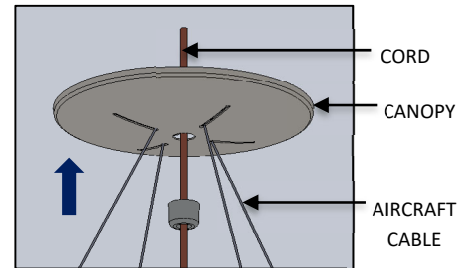

FIG. 18 – CANOPY PLATE INSTALLATION
8. Pass the CANOPY through the AIRCRAFT CABLE and CORD in such a way that the AIRCRAFT CABLE goes through the oblong slot hole and CORD passes through the center hole on the CANOPY as shown in FIG. 18 below.